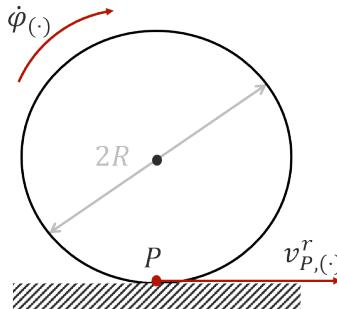

Figure 11.3. Pure rolling kinematic constraint
- *Pure rolling*: the wheels never slips or skids (Figure 11.3). Recalling that  $R$  is the radius of the wheels (identical) and letting  $\dot{\phi}_l, \dot{\phi}_r$  be the angular velocities of the left and right wheels respectively, the velocity of the ground contact point P in the robot frame is given by: